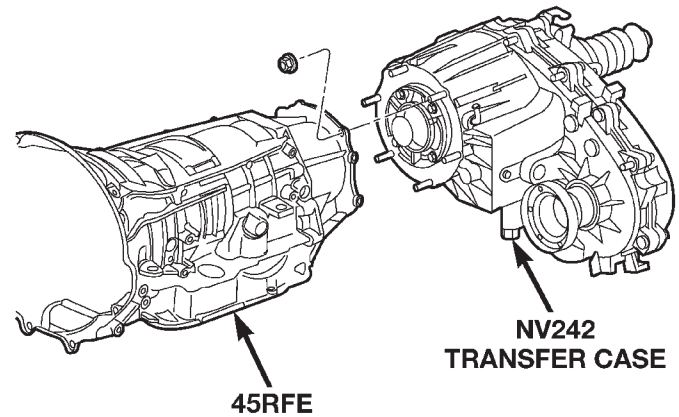

Fig. 4 Transfer Case Mounting
- (7) Disconnect front/rear propeller shafts at transfer case. Refer to Group 3, Differential and Driveline for the correct procedures.
- (8) Disconnect transfer case cable from range lever.
- (9) Disconnect transfer case vent hose (Fig. 4) and indicator switch harness, if necessary.
- (10) Support transfer case with transmission jack.
- (11) Secure transfer case to jack with chains.
- (12) Remove nuts attaching transfer case to transmission.
- (13) Pull transfer case and jack rearward to disengage transfer case.
- (14) Remove transfer case from under vehicle.
- (3) Position transfer case under vehicle.
- (4) Align transfer case and transmission shafts and install transfer case on transmission.
- (5) Install and tighten transfer case attaching nuts to 35 N·m (26 ft. lbs.) torque (Fig. 4).
- (6) Align and connect propeller shafts. Refer to Group 3, Differential and Driveline, for proper procedures and specifications.
- (7) Fill transfer case with correct fluid. Check transmission fluid level. Correct as necessary.
- (8) Install rear crossmember and skid plate, if equipped. Tighten crossmember bolts to 41 N·m (30 ft. lbs.) torque.
- (9) Remove transmission jack and support stand.
- (10) Connect shift rod to transfer case range lever.
- (11) Adjust transfer case shift cable.
- (12) Lower vehicle and verify transfer case shift operation.